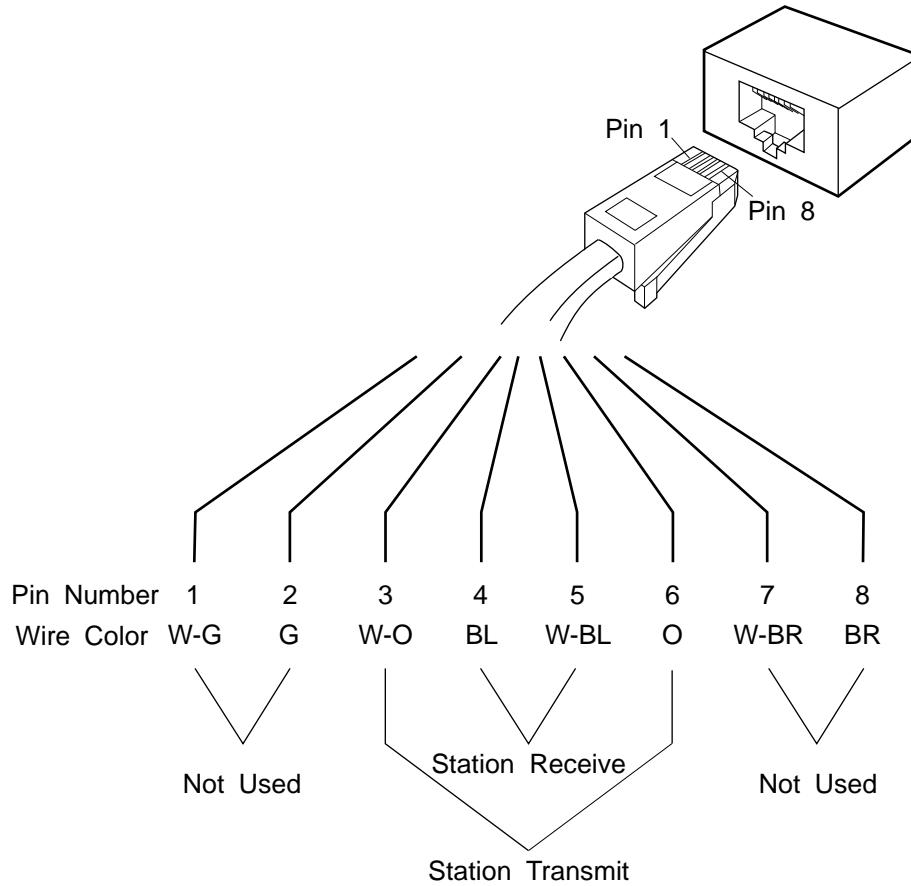

Figure 109. Token-Ring Twisted Pair 8-Pin Connector
Refer to Figure 109 on page 206 for the pin layout of the 8-pin modular connector.
- Eight-pin modular telephone plugs at each end (shielding optional) meeting or exceeding requirements for category 4 cable connections (refer to Figure 109 on page 206 for pin layout). If the cable and connector are shielded, the cable shield will terminate on the connector shield. Note that the connector pins must not be used to terminate a cable shield.